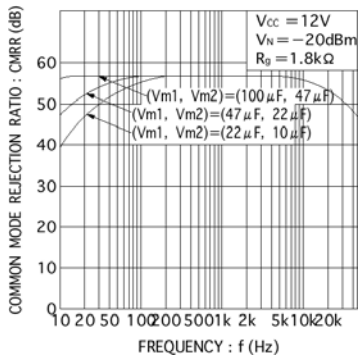

Fig.10 Common-mode rejection ratio vs. frequency
- (8) The capacitors of 2pin ( $V_{m1}$ ), and 6pin ( $V_{m2}$ ) should maintain the ratio of 2:1 for ripple removal characteristics. Maintaining this ratio will not cause ripple removal rate to reduce significantly even if the capacitance reduces to a half.
- (9) Setting the capacitor to the double or half will make the CMRR in the low range to +6dB or -6dB respectively (Fig. 10)